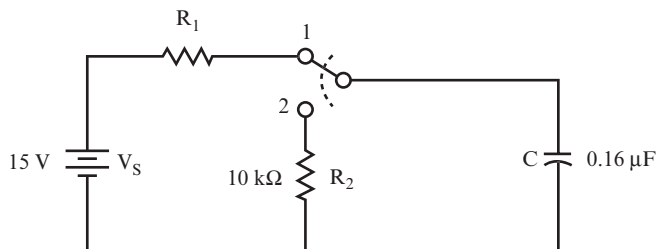

FIGURE 1.22
Unlike ceramic capacitors, many electrolytic capacitors are polarized, which means that you must insert the lead marked with a "+" in the circuit closest to the positive voltage source. The symbol for a capacitor indicates the direction in which you insert polarized capacitors in a circuit. The curved side of the capacitor symbol indicates the negative side of the capacitor, whereas the straight side of the symbol indicates the positive side of the capacitor. You can see this orientation later in this chapter in Figure 1.22.
- 11.** In the circuit shown in Figure 1.22, when the switch is at position 1, the time constant should be 4.8 ms.